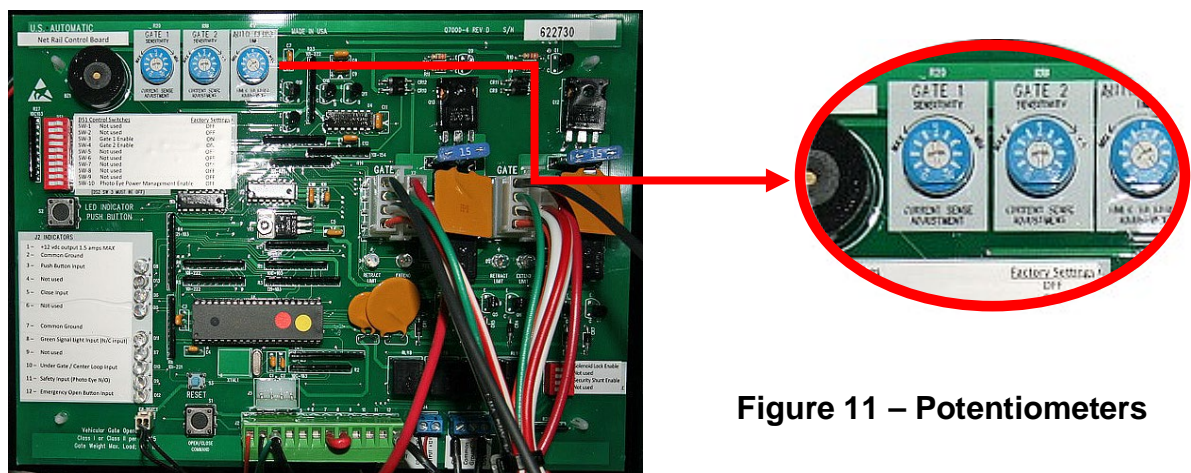

Figure 11 – Potentiometers
7.2 Locate the sensitivity adjustment potentiometer located on the control board (Figure 11).